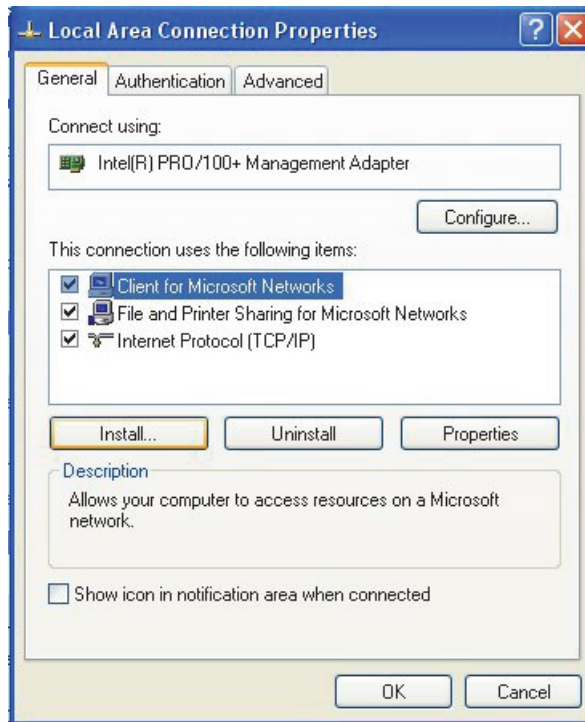

Figure 14-3 The Local Area Connection Properties dialog box (Windows XP)
The **Local Area Connection Properties** dialog box for the selected connection appears (see Figure 14-3 on page 297).
5. Make sure that the three following items are available in the connection window (see Figure 14-3 on page 297):